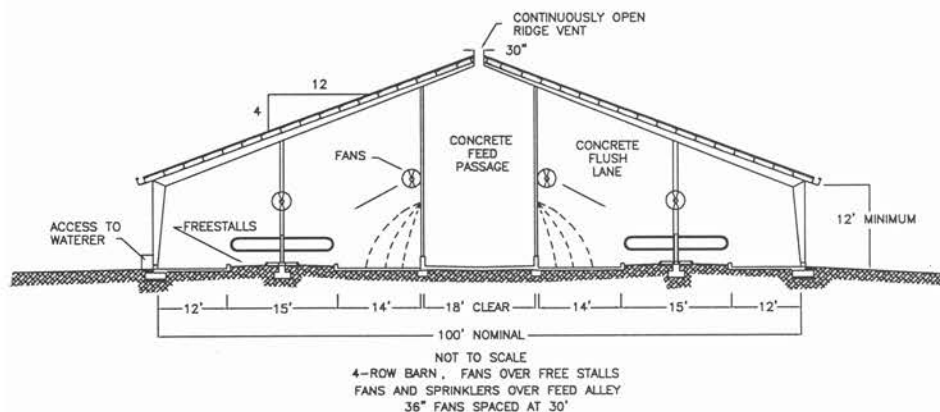

Figure 2. Typical Freestall Barn
**Barns** provide shade, but have other functions and benefits as well. There are two main types of dairy cattle housing barns, feed barns and freestall barns. Feed barns are like freestall barns without the stalls, but are narrower than freestall barns (Figure 2).